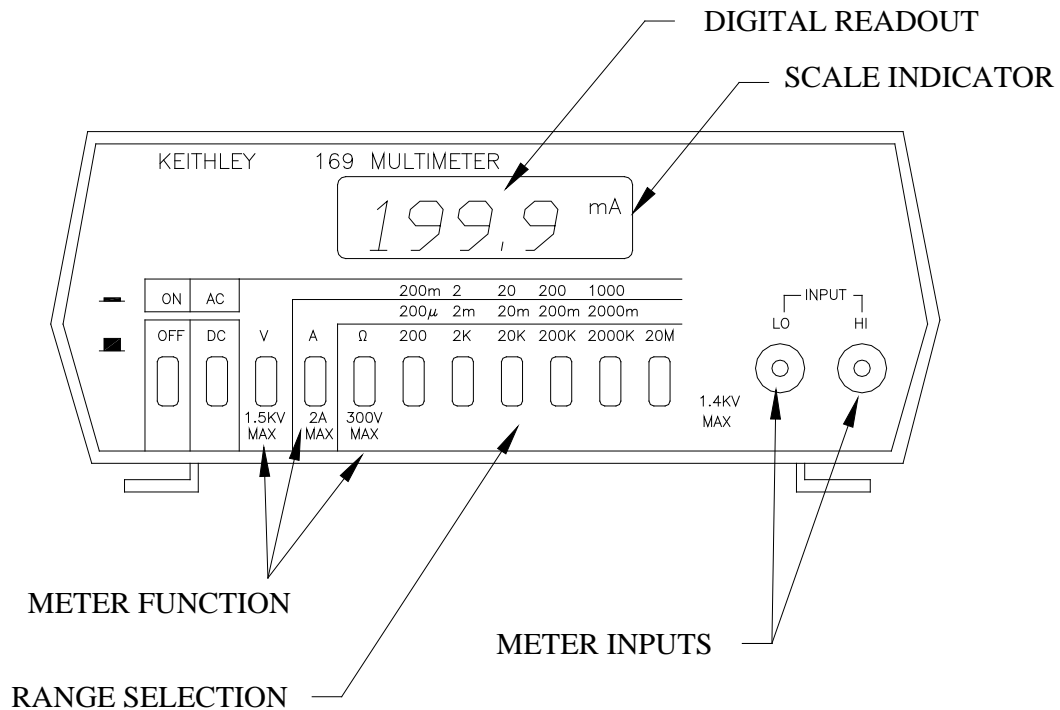

Figure 1 Sketch of the digital multimeter showing important controls.
1) Learning to use the DMM as a Voltmeter. Measure the voltage of a battery in the following manner. Turn on the meter. Set the meter type switch to Volts (V). A small V should appear on the right side of the meter display. See Figure 1 for the location of the SCALE TYPE INDICATOR. Set the DC/AC switch to DC and note that the display indicates a symbol only when the meter is set to AC. Set the scale button to 20V. Plug the test leads into the meter. Take a battery and connect the red lead to the plus (+) terminal on the battery and the black lead to the minus terminal. The display should read »1.50V. These meters are "3-½-digit meters" so sometimes you can get 4 digits displayed on the meter. You can change to the next more sensitive scale. Press the 2V scale button. You should now be able to measure the voltage of the battery to $\pm 0.001\text{V}$ or $\pm 1\text{mV}$. Try going to the next smaller scale and you will see the display with a 1 followed by several blanks. This reading indicates that the meter is *off-scale* and that you need to go to a higher scale in order to make a measurement. Over-scaling the DMM like this will not hurt it, but it would hurt an old style "needle movement" meter. When using the meter, get in the habit of always starting out on the highest scale; then increase the sensitivity by going to a lower scale to get the most digits possible without going over scale.